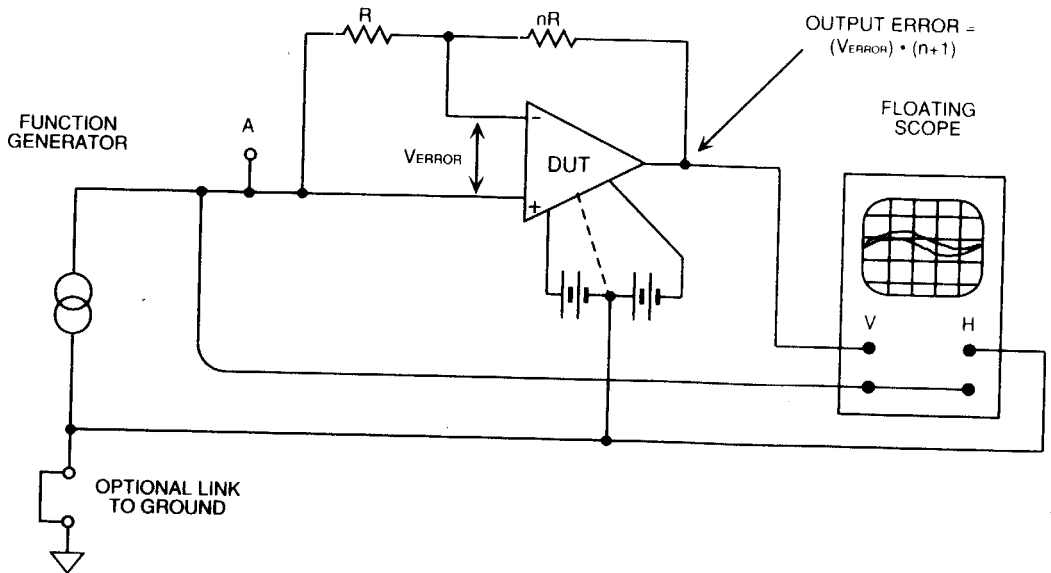
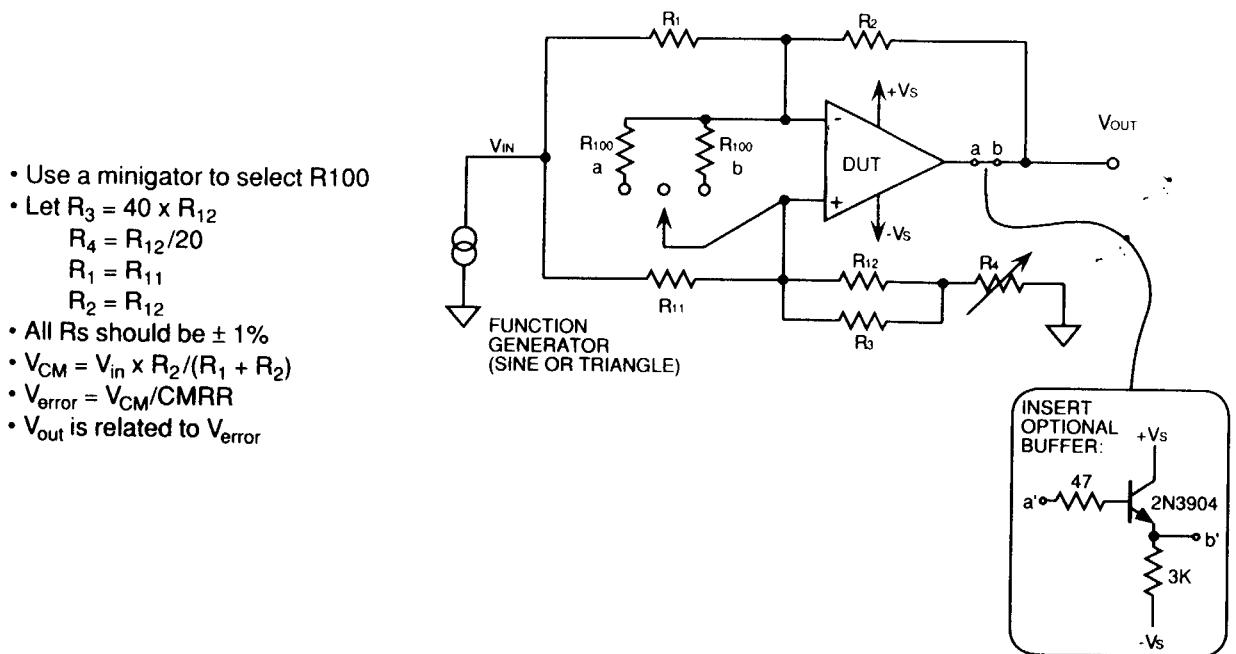

Figure 8.3. Is this a CMRR test? No, because $V_{error} = V_{cm}/CMRR + V_{out}/A_V$.
Figure 8.7. Here's how to evaluate CMRR with confidence and precision, both AC and DC.
The first thing I always tell people is how *not* to measure CMRR. In Figure 8.3, if you drive a sine wave or triangle wave into point A, it seems like the output error, as seen by a floating scope, will be $(N+1)$ times [V_{CM} divided by the CMRR]. But that's not quite true: you will see $(N+1)$ times [the CM Error *plus* the Gain Error]. So, at moderate frequencies where the gain is rolling off and the CMRR is still high, you will see mostly the gain error, and your curve of CMRR vs. frequency will look just as bad as the Bode plot. That is because if you used the circuit of Figure 8.3, that's just what you will be seeing! There are still a few op-amp data sheets where the CMRR curve is stated to be the same as the Bode plot. The National LF400 and LF401 are two examples: next year we will correct those curves to show that the CMRR is actually much higher than the gain at 100 or 1000 Hz. National is *not*, by the way, the only company to have this kind of absurd error in some of their data sheets.
Specifically, I ran an LF356 in the circuit of Fig. 8.3, and I got an error of 4 mV p-p at 1 kHz—a big fat quadrature error, 90 degrees out of phase with the output—see the upper trace in Figure 8.6.
Figure 8.6. Trace (A) shows the “CMRR” error taken using the circuit of Figure 8.3. But it’s not the CMRR error, it’s really the gain error you are looking at, 4 mV p-p at 1 kHz. Trace (B) shows the actual common-mode error—about 1/20 the size of the gain error—measured using the circuit of Figure 8.7.
Figure 8.7 is a darned fine circuit, even if I did invent it myself about 22 years ago. It has limitations, but it's the best circuit I've seen. Let's choose $R_1 = R_{11} = 1$ k, $R_2 = R_{12} = 10$ k, and $R_3 = 200$ k and $R_4 =$ a 500 Ω pot, single-turn carbon or similar. In this case, the noise gain is defined as $1 + [R_f/R_{in}]$, or about 11. See pages 100–101 for discussion of noise gain. Let's put a ± 11 -V sine wave into the signal input so the CM voltage is about ± 10 V. The output error signal will be about 11 times the error voltage plus some function of the mismatch of all those resistors. Okay, first connect the output to a scope in cross-plot (X-Y) mode and trim that pot until the output error is very small—until the slope is nominally flat. We don't know if the CMRR error is balanced out by the resistor error, or *what*; but, as it turns out, we don't care. Just observe that the output error, as viewed on a cross-plot scope, is quite small. Now connect in R100a, a nice low value such as 200 Ω . If you sit down and compute it, the noise gain rises from 11 to 111. Namely, the noise gain *was* $(1 + R_2/R_1)$, and it then increases to $(1 + R_2/R_1)$ *plus* $(R_2 + R_{12})/R_{100}$. In this example, that is an increase of 100. So, you are now looking at a *change* of V_{out} equal to 100 times the input error voltage, (and that is V_{CM} divided by CMRR).